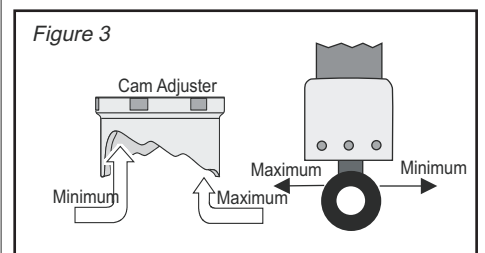
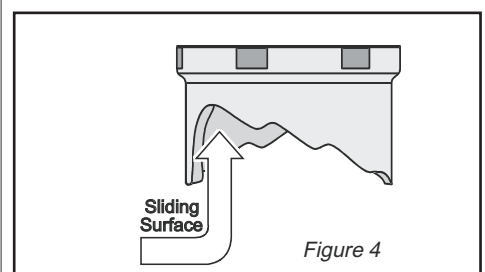

Figure 3
Figure 4
- Install top cap (with decal) and using a spring compressor tool, compress the spring(s) enough to install the retaining clip (F), release the spring slowly, making sure the spring retainer clip seats fully in the top cap and the shock spring.
- Make sure both cam adjusters are adjusted to the minimum setting (see figure 3).
- If excess bottoming occurs, adjust preload cam to a higher setting on both shocks. (See Figure 3) If bottoming persists after adjusting to the highest setting, a spring with a higher rate may be required. For easier spring preload adjustments, put a small amount of cam adjuster lube (supplied) on the sliding surface prior to rotating the cam (see figure 4). If excess topping occurs with the cam at the minimum setting, a spring with a lighter rate may be required. Note: The 12 Series Shock has a hydraulic anti-topping design which slows the rebound damping dramatically towards the end of the shock travel. This damping feature helps keep the motorcycle stable as the shock returns from compression.